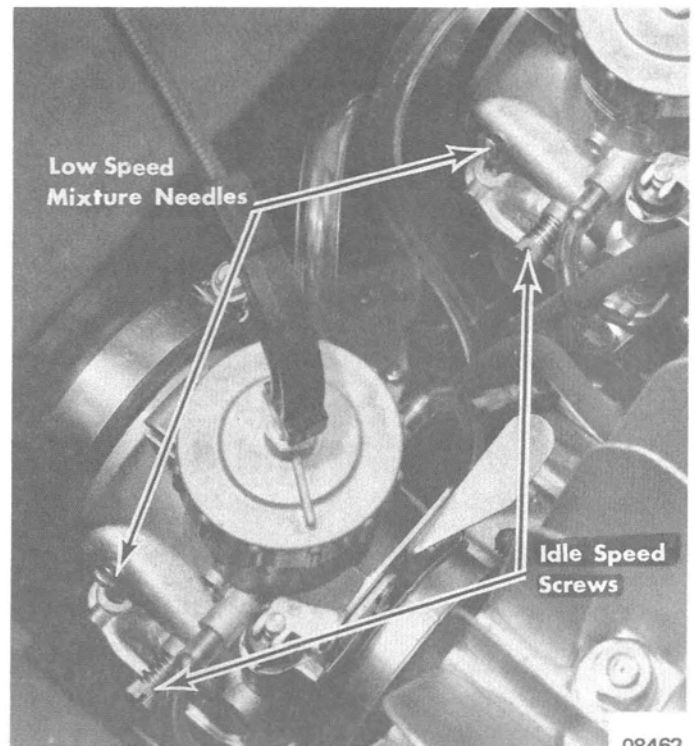

Figure 7. Carburetor Adjustments
## IDLE ADJUSTMENT (Figure 7)
2. Turn low speed mixture needles inward (clockwise) until they seat lightly, then turn back out 1½-turns. (Figure 7)
2. Turn low speed mixture needles inward (clockwise) until they seat lightly, then turn back out  $1\frac{1}{2}$ -turns. (Figure 7)
4. Set idle speed screws (Figure 7), to attain recommended idle RPM (refer to "Specifications" Section 8). Turn idle speed screws inward (clockwise) to increase idle RPM or outward (counterclockwise) to decrease idle RPM.
**NOTE:** Adjust one (1) carburetor at-a-time. Turn low speed mixture needles approximately  $1/8$ -turn at-a-time, then wait sufficient time for engine to respond to this adjustment.